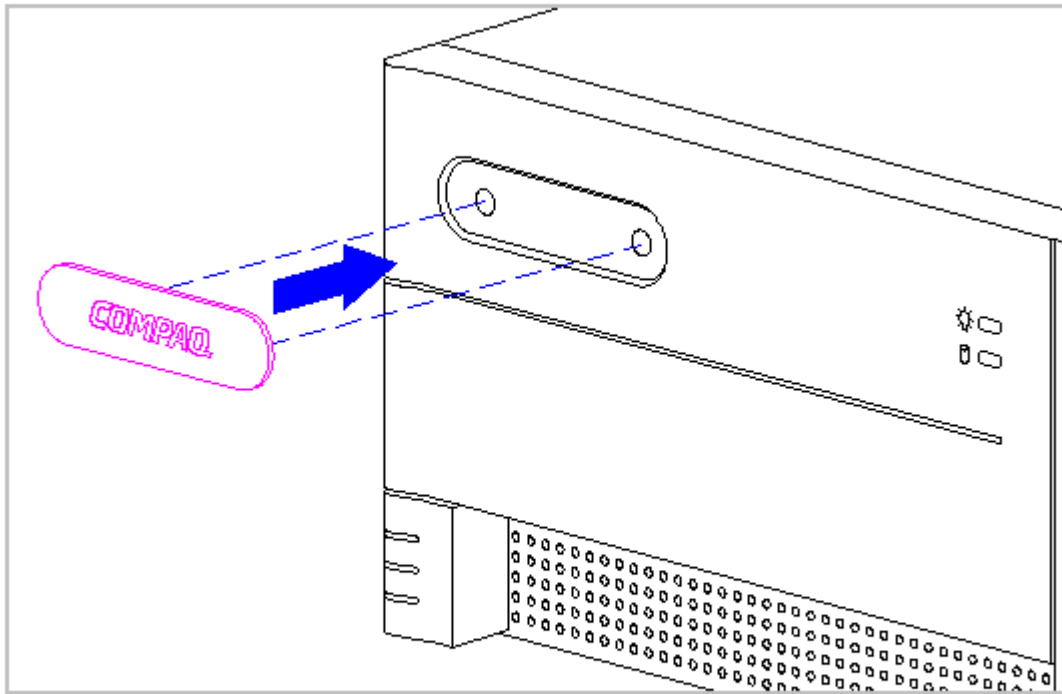

Figure 5-3. Installing the Compaq Logo
2. From the inside of the front bezel, use a small screwdriver at the two holes shown in Figure 5-3 to apply pressure to the logo and remove it from the front bezel.
4. Remove the protective cover from the back of the replacement logo and press it into place as shown in Figure 5-3.